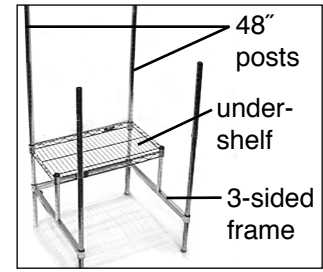

Figure 2b
- Insert the 48" posts through remaining undershelf collars and slide assembly down onto split sleeves. 7" posts should rest on 3-sided frame (see *Figure 2b*).